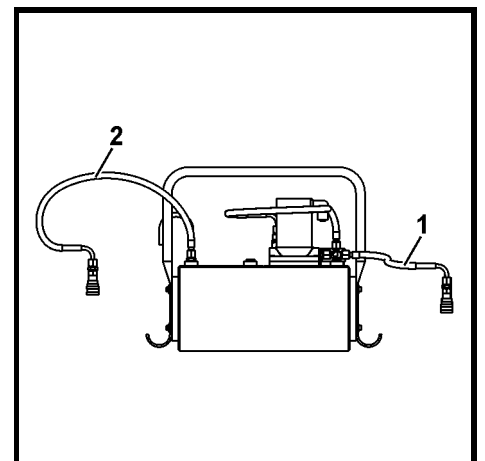

Fig. 17
Normally, changing the coolant filters (fig. 17, pos. 10) regularly is sufficient to maintain the proper concentration.
The filters (fig. 17, pos. 10) must be replaced at the intervals specified in the maintenance schedule:
Use the tool Id. 9943251 (see Fig. 17) to change the coupling oil.